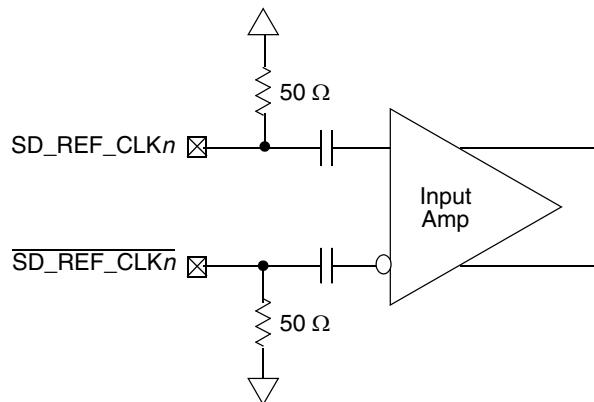

Figure 36. Receiver of SerDes reference clocks
- The SD_REF_CLKn and $\overline{SD_REF_CLKn}$ are internally AC-coupled differential inputs as shown in Figure 36. Each differential clock input (SD_REF_CLKn or $\overline{SD_REF_CLKn}$) has on-chip 50Ω termination to SGND followed by on-chip AC-coupling.